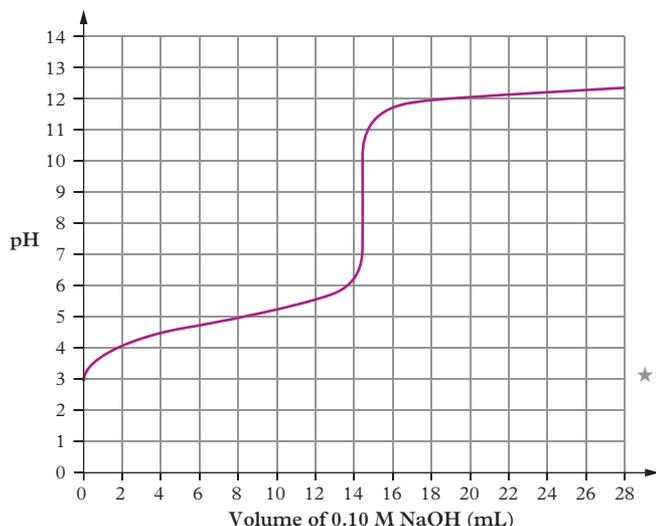

FIGURE 4 A titration curve
- ★★★ 20 Use your knowledge of acid–base titration equilibrium constants for weak acids to answer the following question. To determine the concentration of a solution of HA (a weak acid), a student titrates a 20.0 mL aliquot of HA with a standard 0.100 M sodium hydroxide solution (NaOH(aq)). The titration curve in Figure 4 is produced.